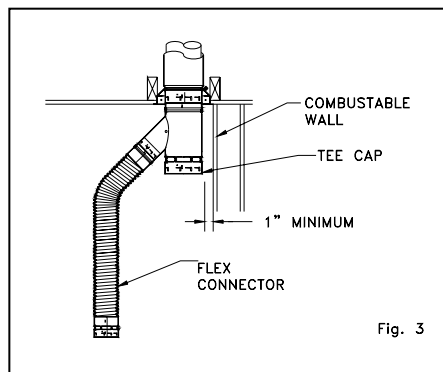

Fig. 3
3. Alternate ways of connecting to the Type B gas vent involve the use of a tee and a tee cap (See Fig. 2), or a wye and a tee cap (see Fig. 3).